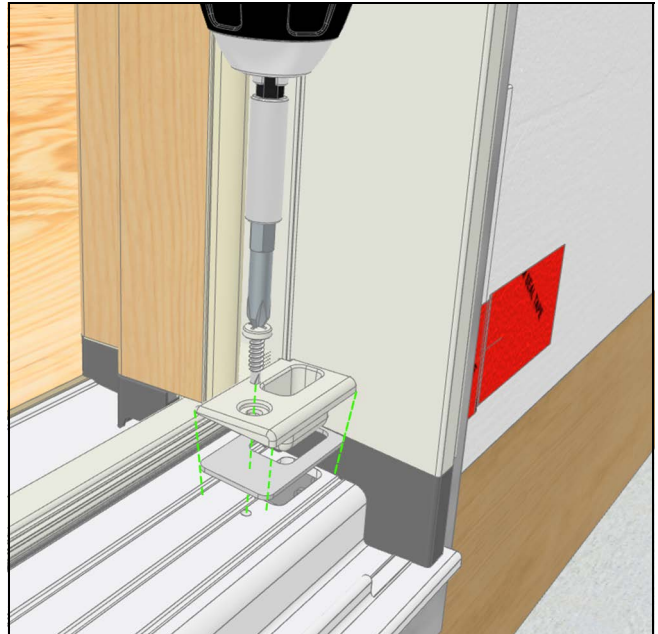

Figure 18
6. Install sill strike using sill color-matched 8-18 x 3/4" pan head screw. See Figure 18